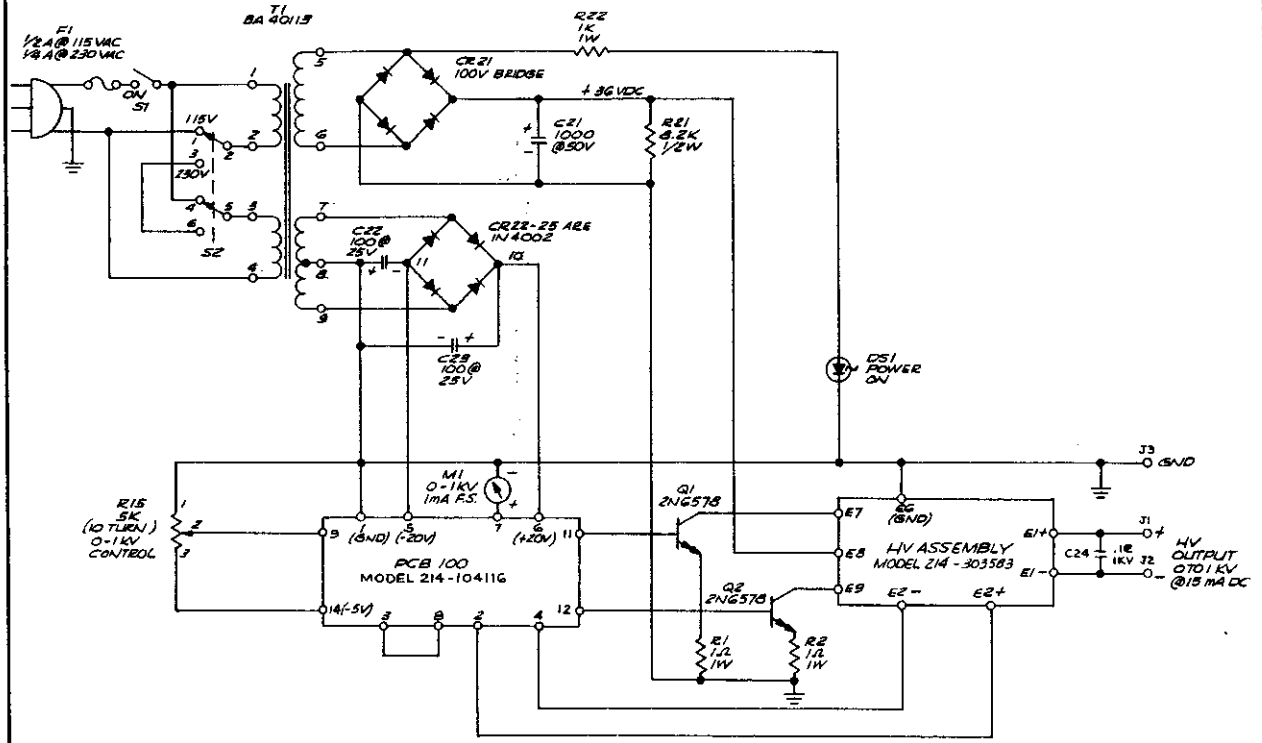

FIG 2
3.4 A functional schematic and block diagram is shown in Figure 2 for the MODEL 214, and in Figure 3 for the MODEL 215. The units are basically a dc-dc converter which converts low voltage dc power to a high voltage dc output. This output voltage is highly regulated and filtered and can be varied by the front panel control. The input to the dc-dc converter is obtained from internal low voltage power supplies powered by the ac line input.
#### 3.5 CIRCUIT DESCRIPTION (See Fig. 2, 3, and 4 for PCB 100)
5.0 Operational spares to support the MODEL 214/215 are available from the factory. It is recommended that the common electronic components: i.e. resistors, capacitors, transistors, etc. be purchased from local electronics distributors. The values and descriptions of these components are indicated in Figures 2, 3, and 4. Specialized -BA- parts may be ordered directly from the factory and are indicated in the spares parts list below. Indicate the model number and serial number when ordering spare parts.